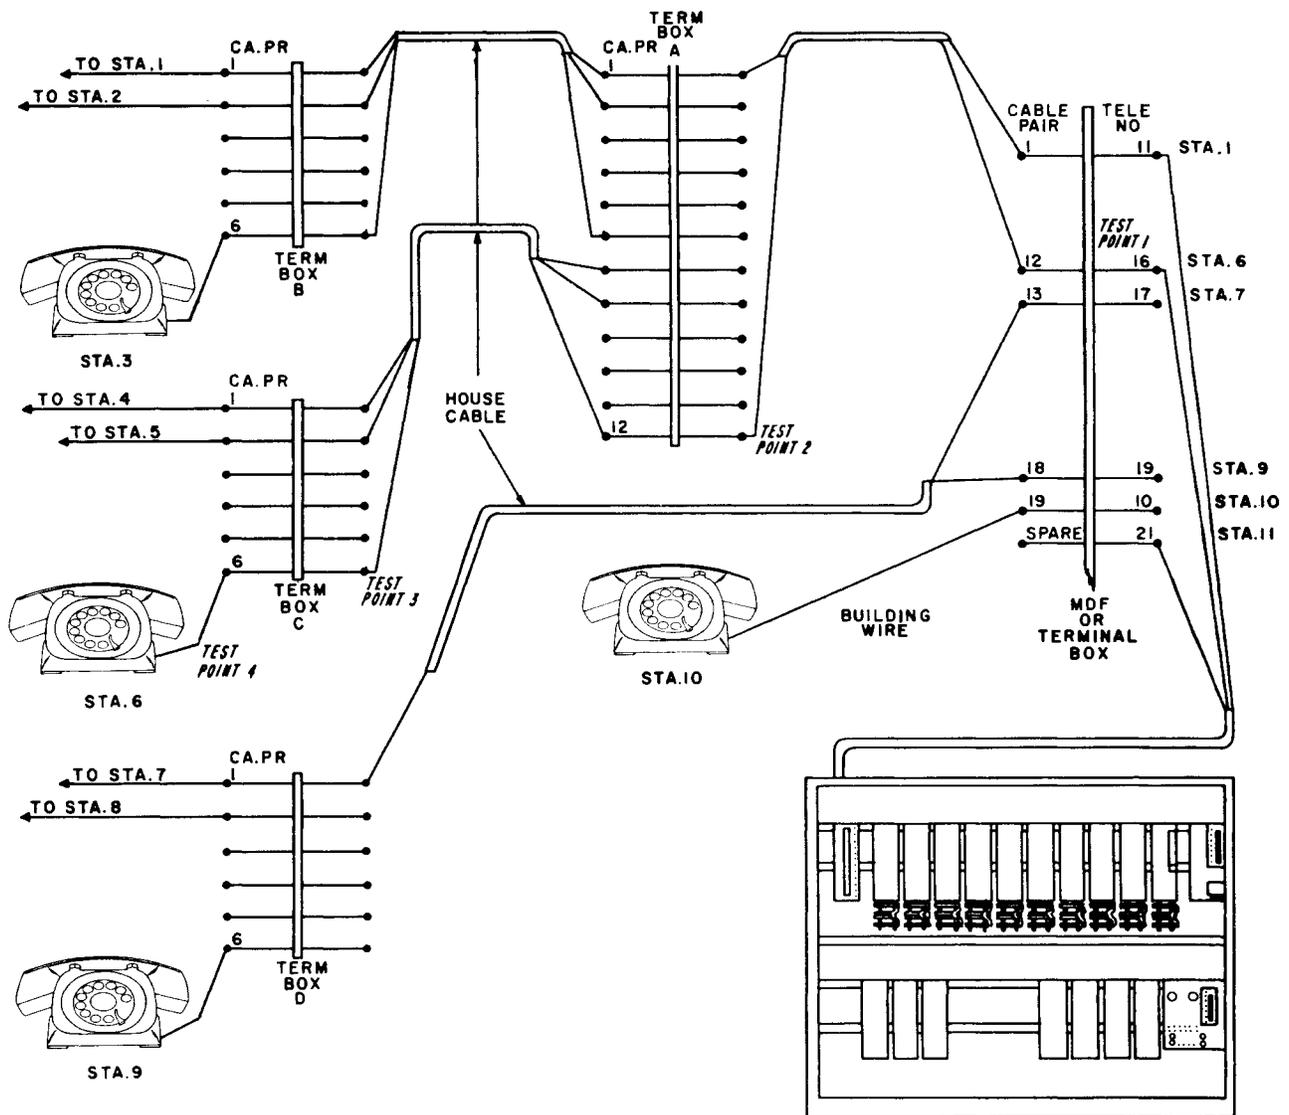

Figure 6. Schematic diagram of a key telephone system.
- b. Example: Station 6 in figure 6. Cannot receive calls; cannot initiate calls; gets wrong number, etc.
- b. Example: Stations 7, 8, and 9 of figure 6. Noisy conversations and cannot seize the P-A-X equipment.
- b. Example: All 10 stations of figure 6 report that at times the called party cannot be signaled; at times no dial tone is received, at times no busy tone is received.
- b. Example: All 10 stations of figure 6. No dial tone is received; no station bells can be rung, no busy tone received.
Step 1. Separate the complaining party's individual P-A-X equipment (line relay) from his other individual equipment at the main terminal box or test point 1 (see figure 6). Connect a spare telephone and initiate and receive calls from this point. Satisfactory results eliminate this unit as the source of trouble. Reconnect the original circuit, or correct line relay faults.
Testing procedures: Connections at terminal box D and the main terminal box are used as test points. Here, this piece of equipment may be separated from the rest of the system's equipment (see figure 6).
When available, use spare line equipment as represented by station 11 of figure 6.
Step 2. Connect a spare telephone to the line equipment at the main terminal box. If possible, reserve the line equipment, such as station 11 of figure 6, for testing purposes.